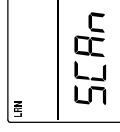

Figure 17
3. To start the operation, it is required to connect the Remote Cost Control Receiver and the power monitor. Press LRN/SCAN key of receiver for a long time (around 2 seconds) to start the 6 seconds reception with learning of new channels. LCD shows "LRN" and "SCAN" during the learning process. (Figure 17)